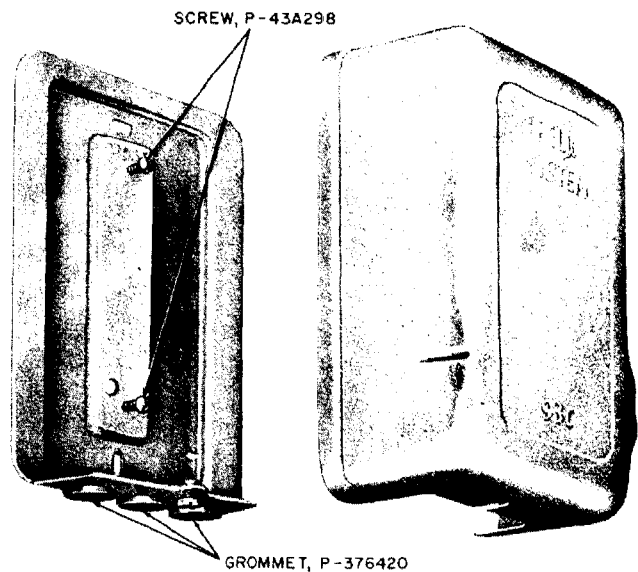

Fig. 12—93C Protector Mounting
3.09 The 93C Protector Mounting consists of a metal base and removable metal cover. It is provided with two screws for fastening the protector to the metal base (Fig. 12).